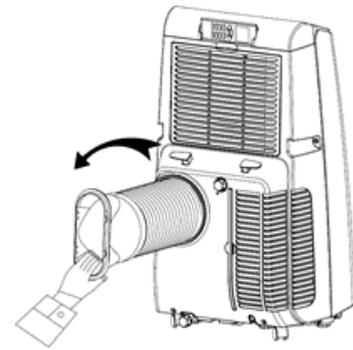

Fig.1
1.1 Install the vent hose (as shown in fig.1): screw the vent hose (exhaust fitting end) into the exhaust port on the rear panel (counterclockwise).